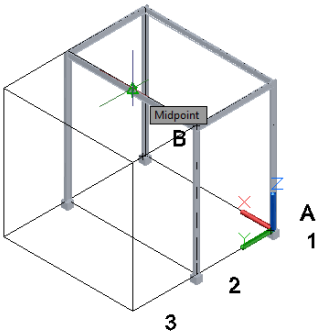

Figure 3-42 Selecting midpoint on the top edge
6. Change the view orientation of the model to **NW Isometric**, and select the midpoint on the top edge of the member, as shown in Figure 3-42; you are prompted to select the second point.